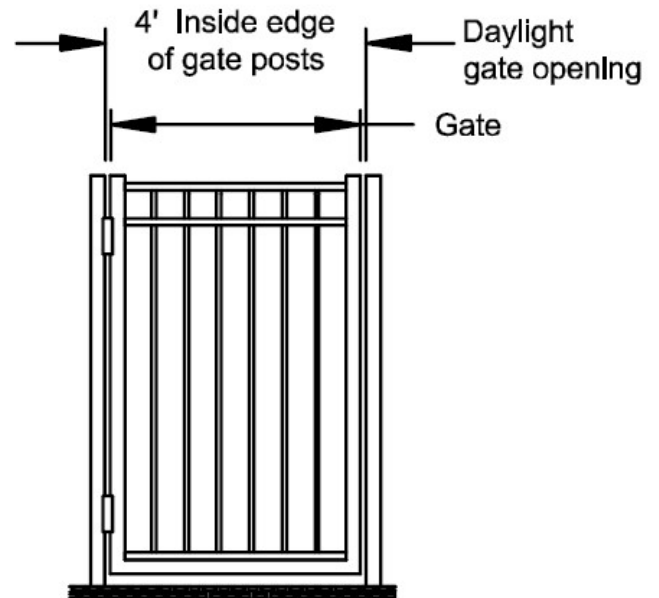

Fig. 3
2. Gates are built to fit actual openings; if the packing list shows a 4' gate, the gate and hardware fits in the 4" opening - Figure 3